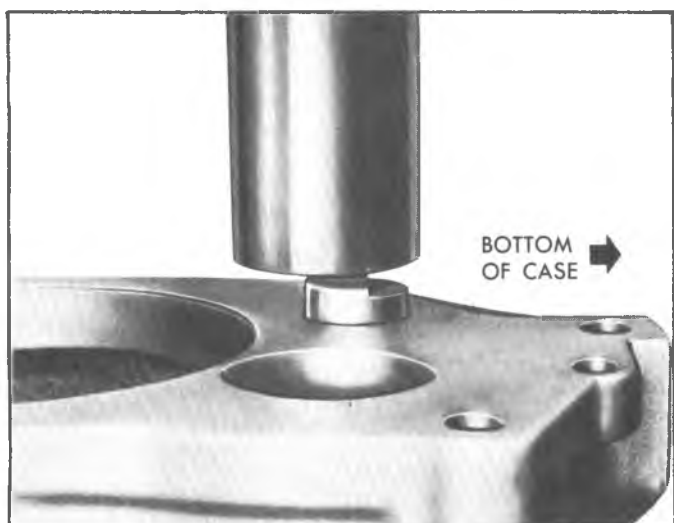

Fig. 16B - Installing Countershaft
5. Align countergear with shaft in rear and hole in front of case, and press countershaft into case (pushing assembly tool out front of case) until flat on shaft is flush with rear of case. Be sure thrust washers remain in place (fig. 16B).